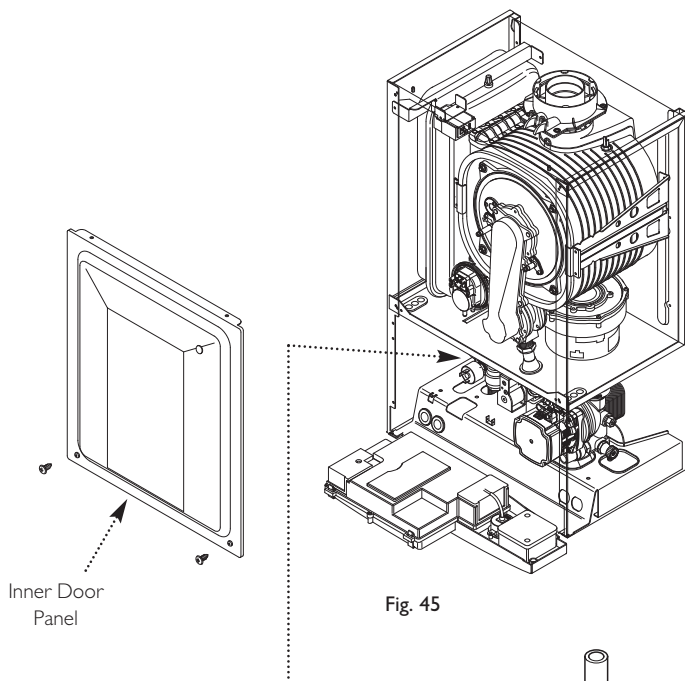

Fig. 45
4. Remove the screws securing the inner door panel. Lift the panel slightly to disengage it from the studs on top of the case (Fig. 45).